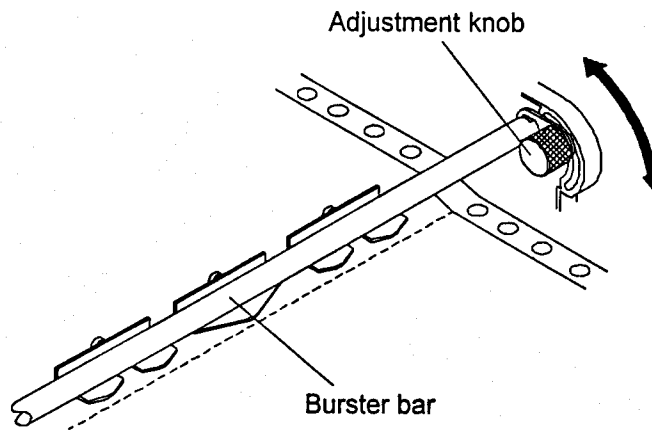

FIG. 4
- 3.1 If heavy grade paper is being processed, or the rollers appear to be slipping, the burster bar may need adjustment. Open the top cover, and referring to Fig. 4 below, slacken the burster bar adjustment knob. Lower the bar slightly so that the burster tips press more firmly into the paper, then tighten the knob. Run the machine and make further adjustments if necessary.